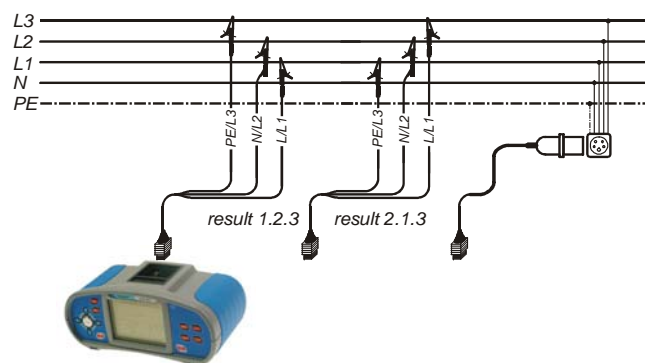

Figure 5.28: Connection of universal test cable and optional adapter in three-phase system
- ❑ **Connect** test leads to the tested object (see *figures 5.28 and 5.29*).